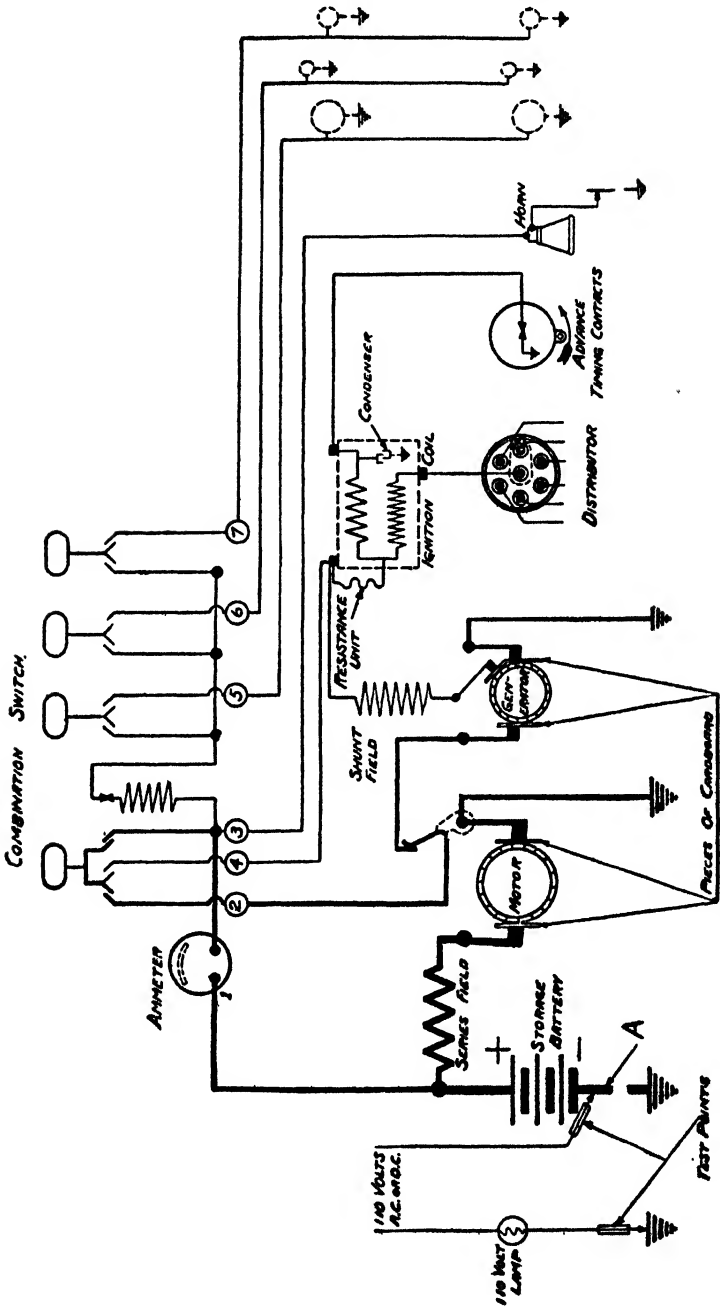

Fig. 48. Wiring Diagram Showing Method of Using Lamp-Testing Set for Locating Grounds
**Locating Grounds.** By referring to any of the Delco diagrams of the one-wire type, it will be noted that certain parts of the circuits are normally grounded, i.e., they are connected to the common return represented by the chassis of the car. For example, the negative battery terminal, one terminal of each lamp, one motor, one generator brush, one timer contact, one terminal of the horn push button, and one terminal of the condenser in the coil are grounded. Before testing the wiring for grounds, it will be necessary to remove these normal, or intentional, grounds. This is carried out, in the order in which they are mentioned, by disconnecting the negative battery lead and removing all the lamps, placing a piece of cardboard between each generator and each motor brush, including the third brush of the former and the commutator against which it ordinarily bears, disconnecting the leads from the horn button and from the distributor, and raising the base of the ignition coil so that it is insulated from the top cover of the generator motor. The system will then be in the condition shown in Fig. 48.